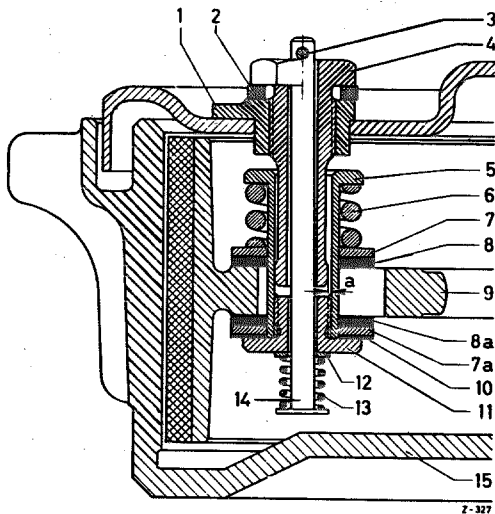

Fig. 42 — 8/1
3. Remove the cotter pin (3) of the guide pin (14) at the back of the brake anchor plate. Then pull out the guide pin (14) together with the pressure spring (13) and the washer (12) (Fig. 42 — 8/1).